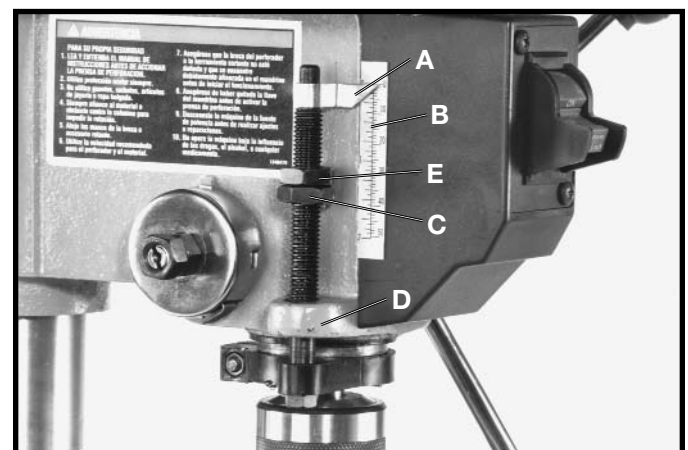

Fig. 23
3. Lower the spindle until the pointer (A) Fig. 23, lines up with the mark on the scale (B) you wish the depth of the holes to be drilled. Then thread the lower stop nut (C) down to contact the depth stop (D) on the side of the head. Return the spindle to the up position.
5. Tighten the upper stop nut (E) Fig. 23 against the lower stop nut (C).
6. Drill a test hole to check the adjustment and readjust if necessary. All holes will be drilled to the depth indicated by the setting of the lower stop nut (C) Fig. 23, as it contacts the depth stop (D) when the spindle is lowered.